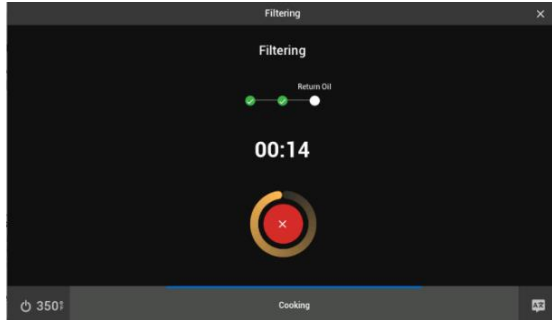
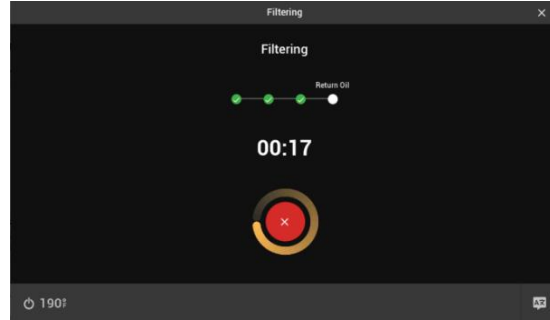

**Figure 110 - Draining Alert without FDF**
**Figure 111 - Draining Alert with FDF**
**Returning oil alert timer.** The operator has several seconds to follow the ALERT screen prompt before drain closes **Figure 110** or **Figure 111**.
During all automatic sequences listed above, the message **ALERT – DRAIN CLOSING – REMOVE TOOLS** will appear with an audible alert for 10 seconds prior to the scheduled closure of the drain. Remove tools, such as a clean-out rod, from the drain. Failure to do so could cause damage to the equipment **Figure 110 - Draining Alert without FDF** or **Figure 111 - Draining Alert with FDF**.